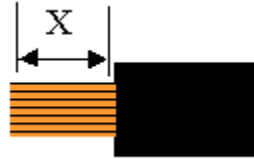

Figure 1
1. Strip wire to "X" dimension (Figure 1) taking care to avoid nicking or cutting of wire strands. Do not bend or twist strands too sharply.